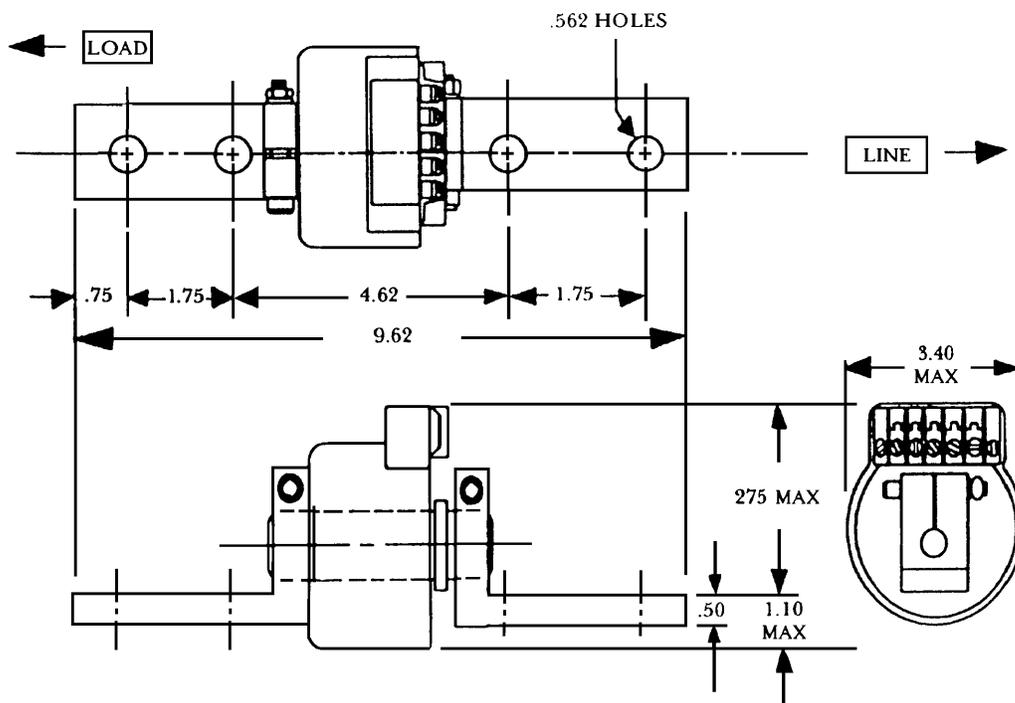

Figure 17. Neutral sensor outline.
1. Mount the neutral sensor on the outgoing neutral lead, normally in the bus or cable compartment in the equipment. Figure 17 shows the outline of the neutral sensor.